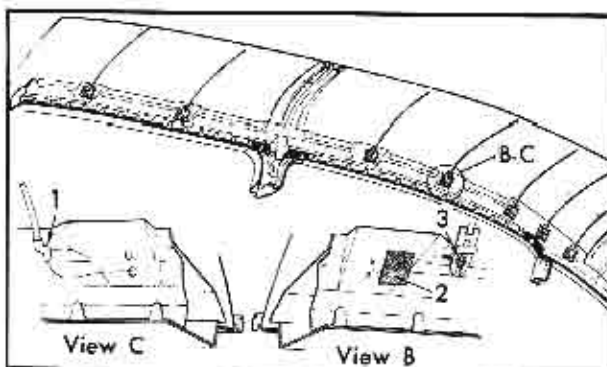

Fig. 3-78 Removing Headlining Support Wires (6219, 6019)
7. Loosen all headlining support wire attaching screws along the right side roof rail. View "B" 3, Fig. 3-78.
NOTE: The left end of each support wire is formed with an offset over which a rubber thimble is placed prior to inserting into a slot in the left side roof rail. View "C" 1, Fig. 3-78.